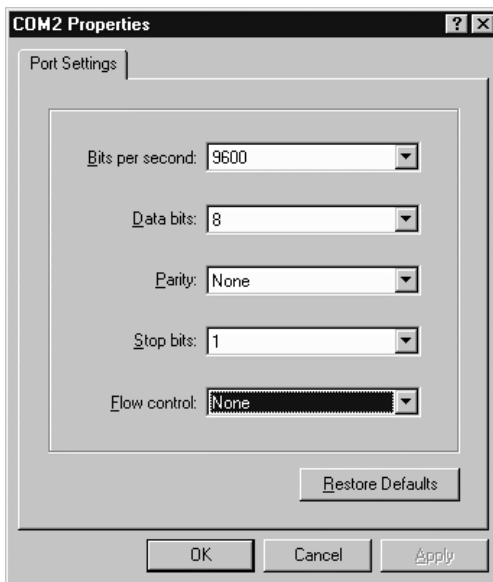

Figure 2-5 Setup of the COM port parameters.
- Setup the COM port parameters - 9600 bps, 8 data bits, no parity, 1 stop bit and no flow control (Figure 2-5).